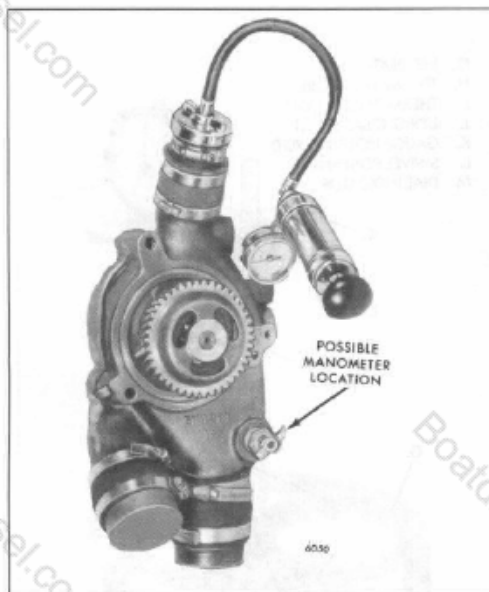

Fig. 4 - Testing Modified Water Pump Housing
10. After the water pump is assembled, it is suggested that an air leak test be performed with a pressure testing kit such as that shown in Fig. 4. Attach the manometer at the water pump drain cock hole, then use the hand pump to raise the mercury manometer to 20 in. or 9.9 psi (68 kPa). If the manometer does not decrease in excess of .2 in. or .1 psi (68 kPa) in 60 seconds, the pump has met the air leak test criteria. If the pump does not meet this criteria, turn the pump shaft to be sure the seal is not being held off the ceramic and perform the air leak test a second time.